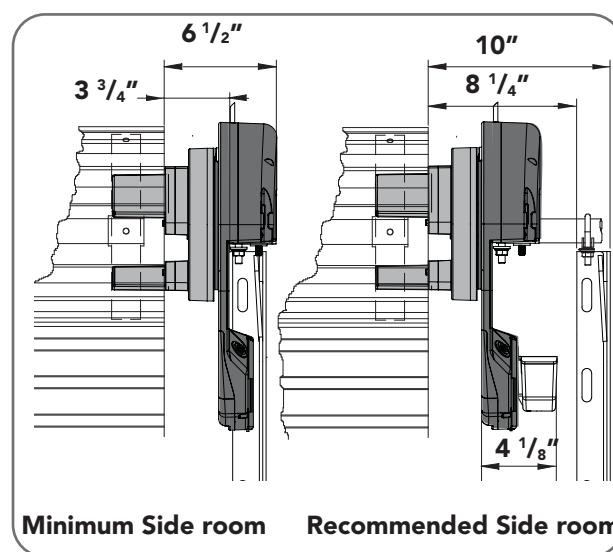
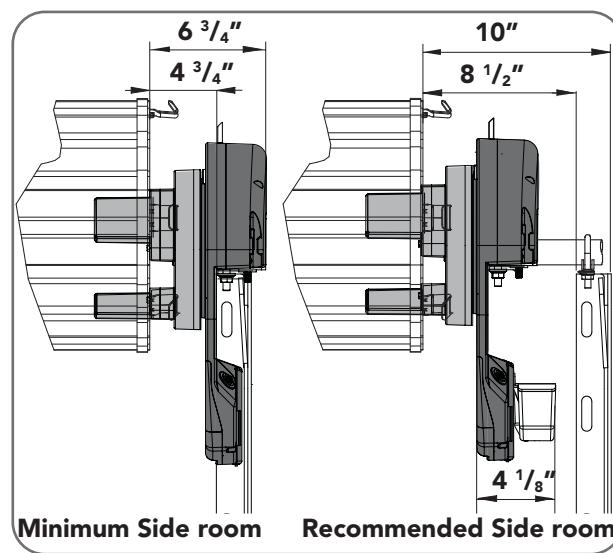

Fig 6.1.2
Fig 6.1.3
Therefore the recommended sideroom from the edge of the door curtain is 130mm to the inside of the door bracket, and 10" to the wall as per diagram (**Fig 6.1.2**) Please refer to **Fig 6.1.3** for Windlock Doors.
Attach and secure the three (3) forks (2) or (10) with the six (6) hex serration head screws (3) to the drive unit (1) (**Fig. 6.1.3**). All forks must be used and properly engaged into the drum of the door for the opener to work effectively.